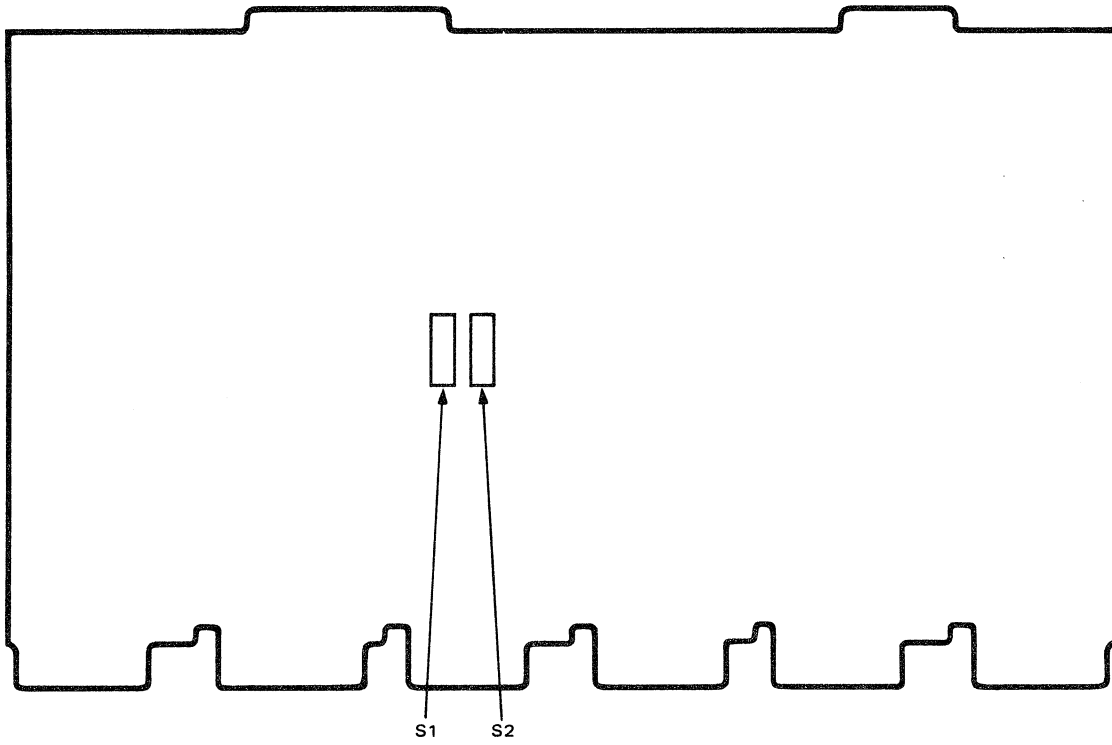

Figure 5-15 HAC Board
1. Check the settings of the microswitches in locations S1 and S2 on the HAC card. In location S1, all settings except 4 should be "open" ("off"); 4 should be "closed" ("on"). In location S2, all settings except 8 should be "open"; 8 should be "closed". Figure 5-15 illustrates the positions of the two switches on the HAC.